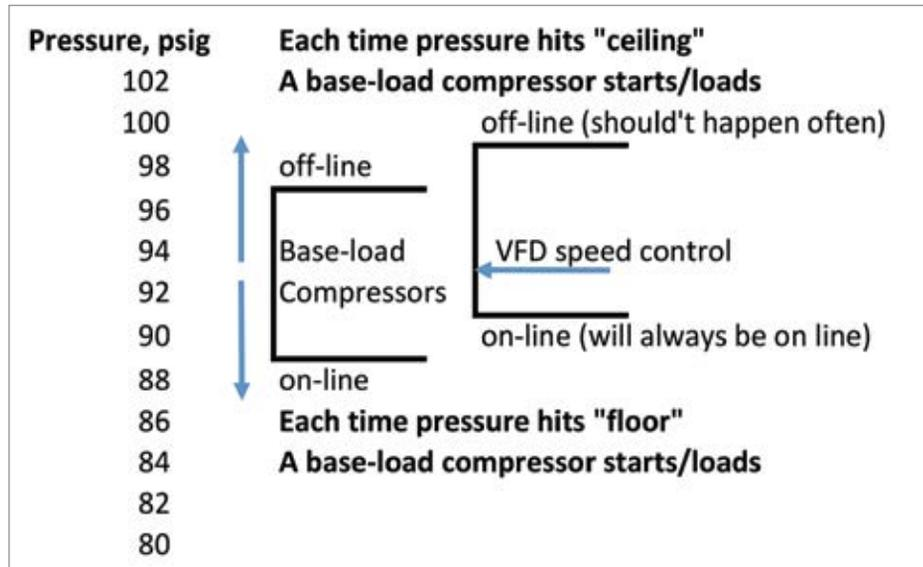

Figure 4. Target Algorithm
2. Target algorithm. This is the one to use with a properly sized VFD air compressor. The VFD air compressor speed control is set in the middle, or “target”, and the base-load air compressors “bracket” it. They operate with one or multiple pressure windows, fully bracketing the VFD. See Figure 4.